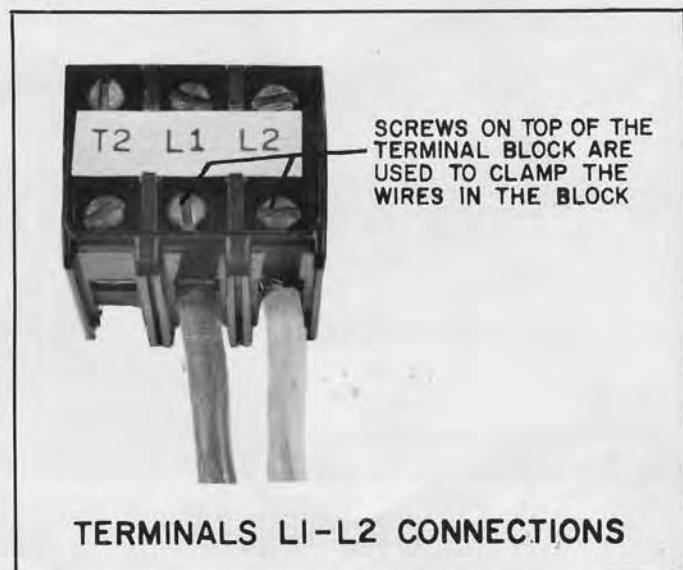

Fig. 4
3. The wires must be connected to terminals L1 and L2 through the front face of the terminal block as shown in Fig. 4. The screws on the top of the terminal block are used for clamping the wires in the terminal block.